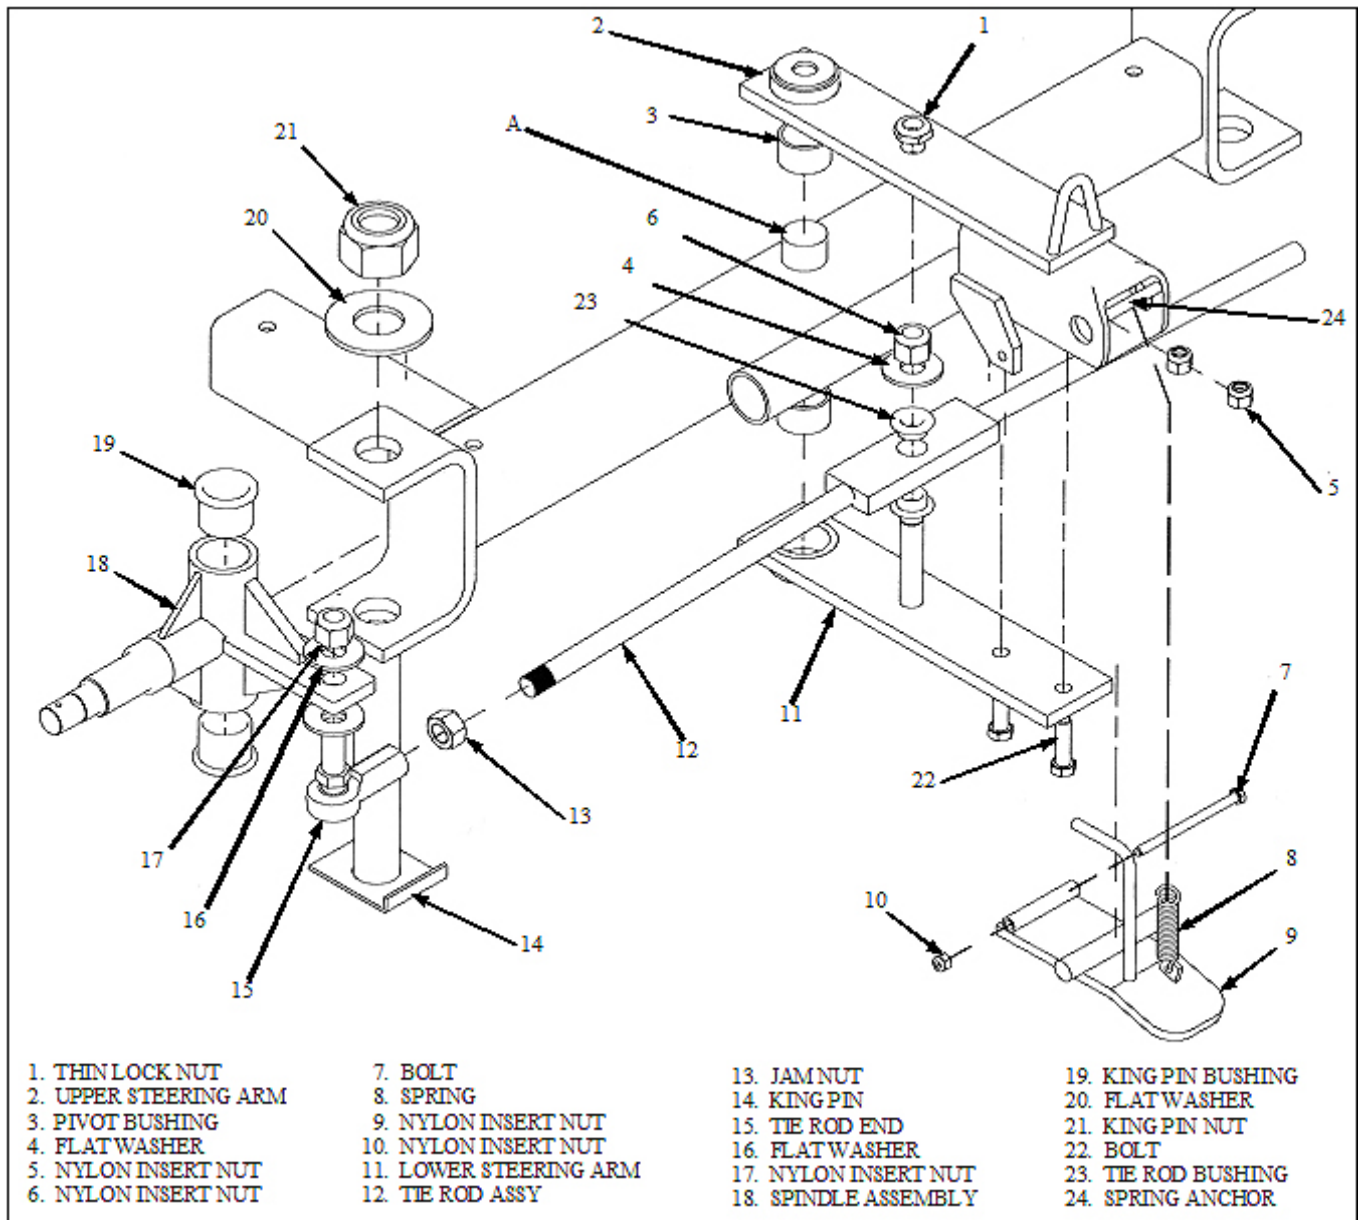
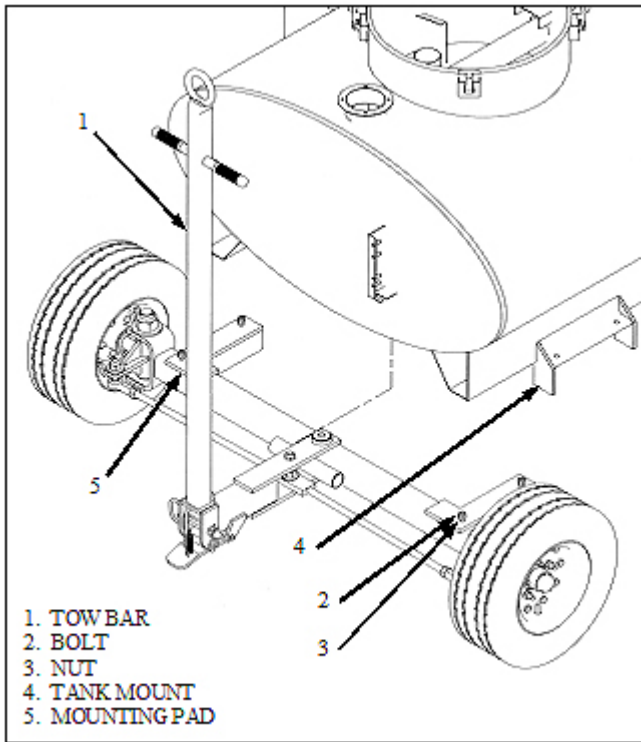

Figure 5-14. Front Undercarriage Exploded Assembly
Figure 5-15. Removal of Front Undercarriage
5.3.8.3 Spindle Assembly. To remove the spindle assembly, follow the maintenance steps in Paragraph 5.3.8.2 before beginning the next steps. See Figure 5-14.
- a. Remove nut (17) and washer (16).
- b. Remove nut (21) and washer (20).
- c. Remove king pin (14) from yoke by using a rubber hammer.
- d. Grasp spindle assembly (18) and rotate toward front of tank until free of yoke.
- e. Remove spindle assembly from tie rod (15).
- f. Remove bushings (19) with bronze punch and hammer.
- h. Reassembly in reverse order. Nut (21) should not be tighten past snug.
5.3.8.4 Tow Latch Assembly. The tow latch assembly is used to secure the tow bar in the upright position. see Figure 5-14.
- a. Remove tow bar (1) by placing the tow bar in upright, latched position. Remove hair pin (2). While holding onto tow bar, place foot on toe latch assembly (see reference arrow A) and depress.
- b. Pull hitch pin (3) from steering arm assembly and place tow bar to the side.
- c. See Figure 5-14 for the remaining steps. Remove bolt (7) and nut (10).
- d. Rotate toe latch plate (9) downward to free from assembly.
- e. Detach spring (8) from toe latch plate (9) and spring anchor (24).
5.3.8.5 Steering Arm Assembly. To remove the steering arm assembly, follow the maintenance steps in Paragraph 5.3.8.4 before beginning the next steps. See Figure 5-14.
5.3.8.6 Tie Rod Assembly. The tie rod assembly is removed by the following steps. See Figure 5-14.
- a. Start by following the steps in Paragraph 5.3.8.5. Note presence and location of bushings (23) when removing tie rod assembly from steering arm assembly.
5.3.8.7 Front Undercarriage Assembly Removal. To remove the entire Front Undercarriage assembly, the equipment must have the front end raised. See Figure 5-15 for these steps.